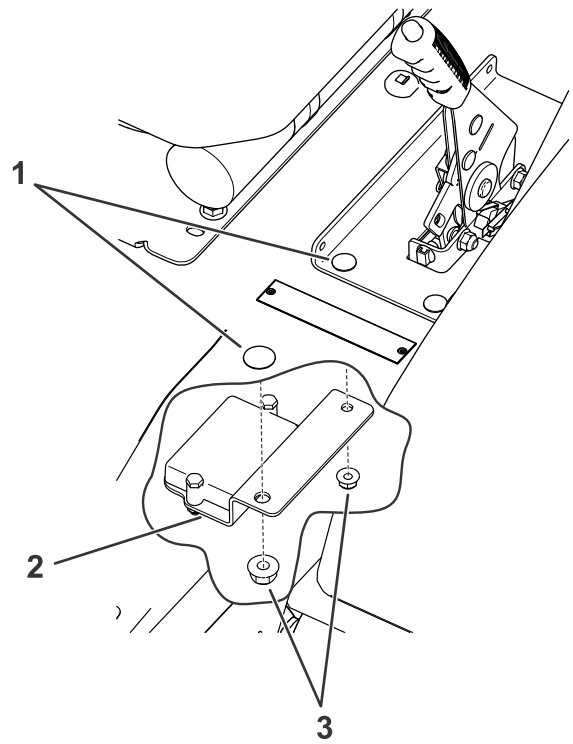

Figure 3
- Remove the nuts shown in Figure 3.
- Secure the mounting bracket to the machine using the bolts and nuts (Figure 3).